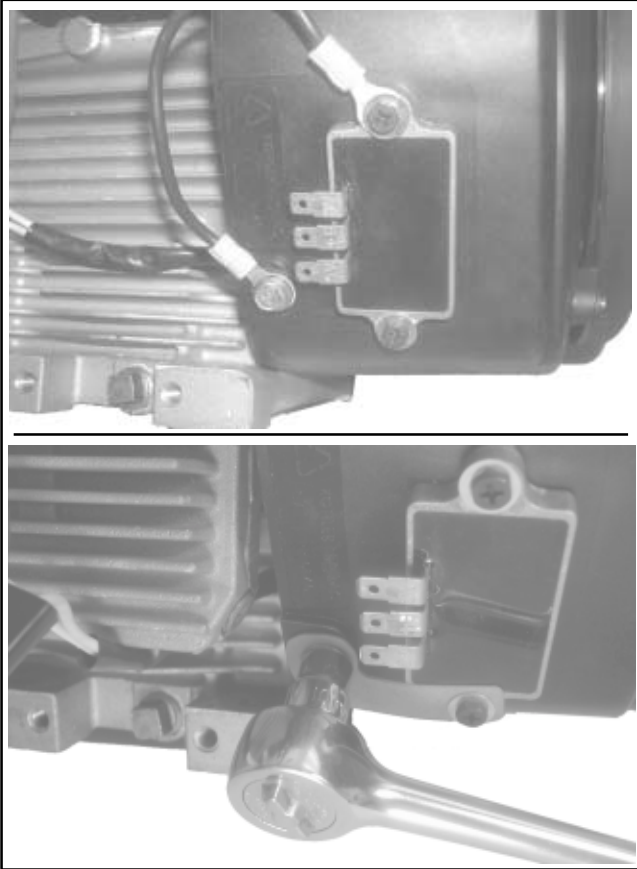

Figure 11-63. Ground Lead Details.
4. If the rectifier-regulator was not removed, attach the ground wire or metal grounding bracket for the rectifier-regulator, using the silver colored screw and washer, to the lower blower housing hole. See Figure 11-63.